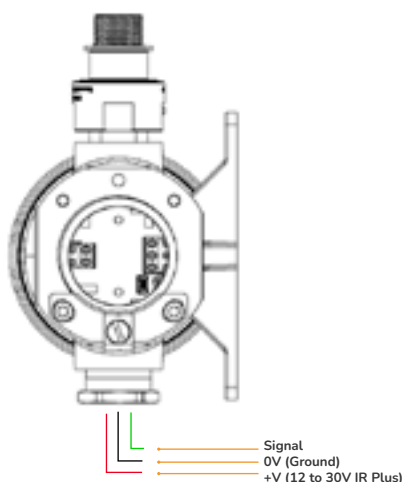

Figure 3: Field cable connections on the IR Plus
Connect field cables using a certified gland via the chosen cable entry on the IR Plus body (M20 or 3/4" NPT), as indicated in Figure 3. Crowcon recommends cable glands are installed pointing downwards.
- e. Refer to Section 2.6 for instructions on wiring. See also Figure 3.